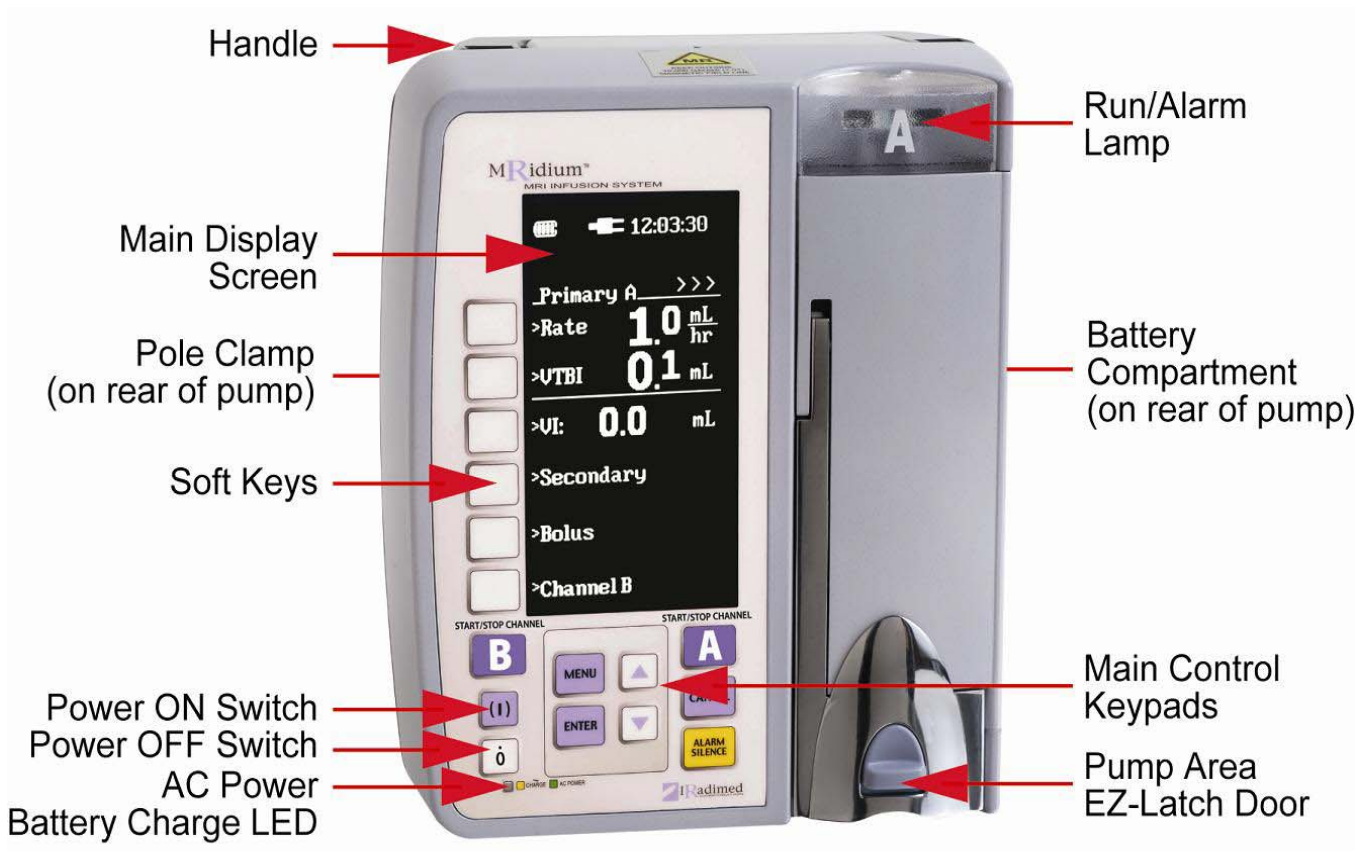

Figure 1-1. Front of Pump
1.1.1 Front of the Pump. See Figure 1-1 for the location of the major components on the front of the pump.